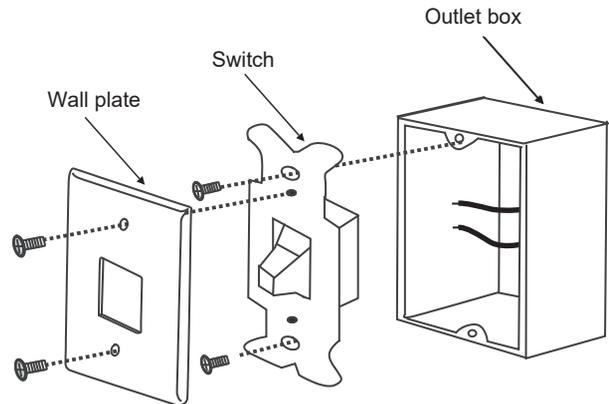

Figure 16
a. Remove the existing wall plate and the old switch from the wall outlet box. Wire nut the BLACK leads (hot) together and push back inside the outlet box. (Fig. 16)